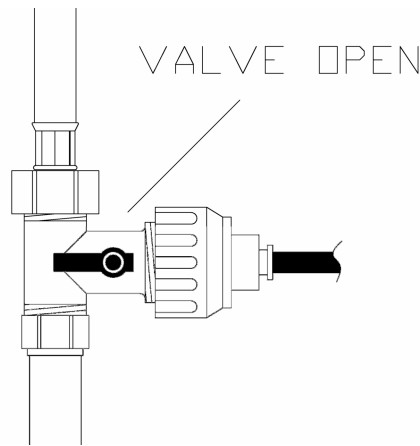

Fig 3.
8. Turn the lever on the isolator (A) to the open position (fig 3.) . Note: for customers with the previous version of the filter system, open the water by turning the handwheel on the saddle valve.